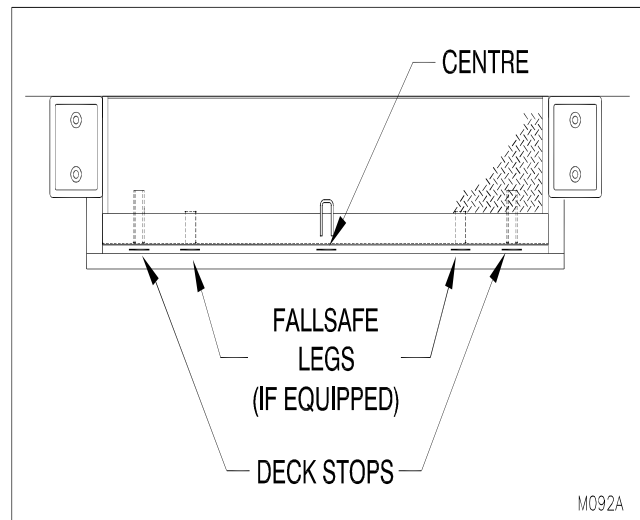

Figure 11: Dock Leveler Front Shims
2. ___ Lower dock leveler to the stored position and shim front frame under the two deck stops and in center of dock leveler until the deck is flush with the top of the front curb angle and the floor. If the dock comes with the mechanical failsafe option then shim as indicated (See "Figure 11: Dock Leveler Front Shims" on page 13) Tack weld into position.